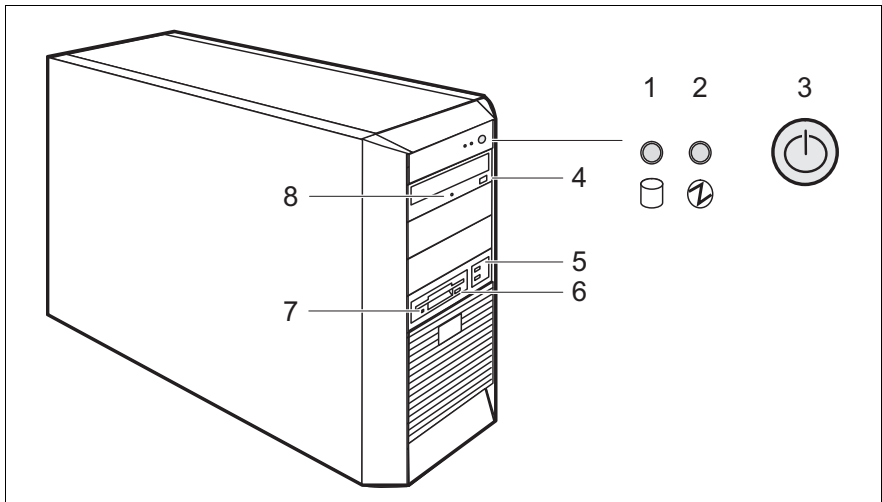
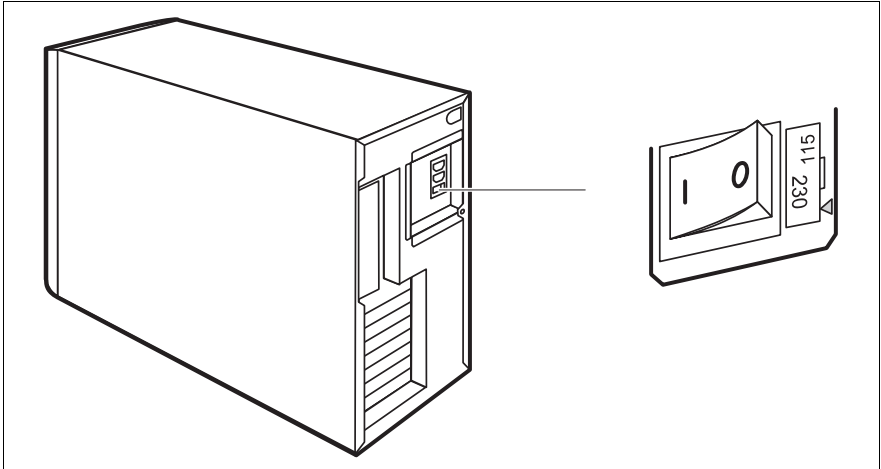

Figure 4: the front side
Figure 5: master switch
Two further USB ports are located on the front of the server (see figure 4 on page 31).
The power button does not separate the server from the line voltage. To disconnect the device completely from the mains, you must switch off the master switch (if present on the back of the device) (see figure 5 on page 33) and remove the plug.
The power-on indicator (position 2 in figure 4 on page 31) lights orange (standby mode) when the server is connected to the network and the master switch (if present) is switched on (see figure 5 on page 33).
- ▶ Press the ON/OFF button (position 3 in figure 4 on page 31).
Power-on indicator lights green (position 2 in figure 4 on page 31).
The power-on indicator lights green (position 2 in figure 4 on page 31).
- ▶ Press the ON/OFF button (position 3 in figure 4 on page 31) or follow the process described under “Other ON/OFF options” on page 35.